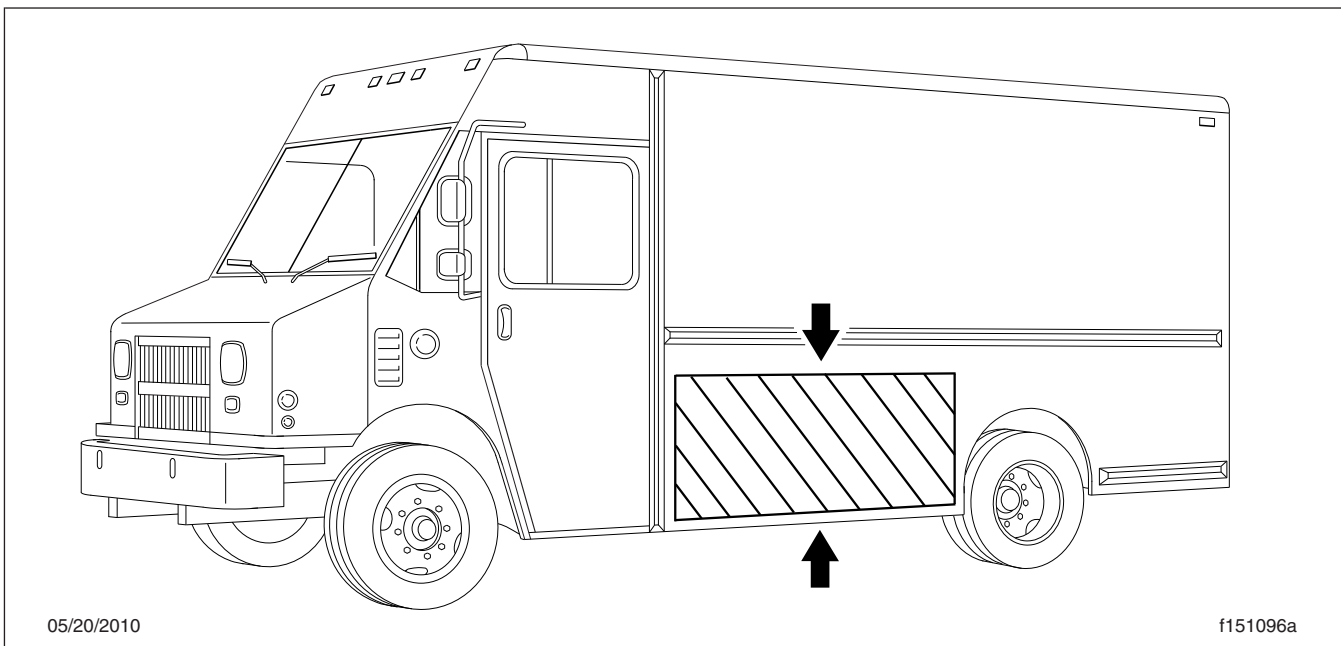

Fig. 9.1, Power Electronics Carrier (PEC) Location
Never touch or cut high-voltage cables or connectors. If it is necessary to remove occupants using cutting equipment, avoid high-voltage cables and the Power Electronics Carrier (PEC). See Fig. 9.1 for the location of the high-voltage cables and PEC.
- Do not cut into the passenger side of the body. The PEC is located behind the sheet metal. See Fig. 9.1.